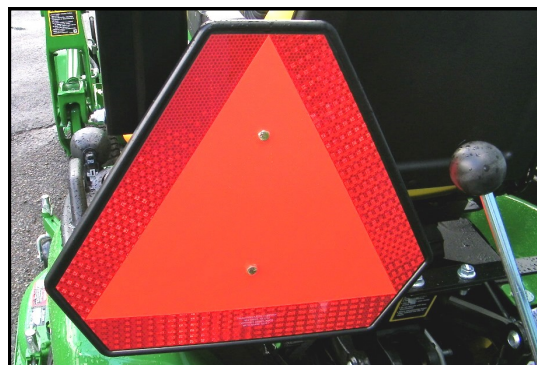

Fig. 1.1a (SMV sign mounted to the ROPS)
(1) Vertical bracket and (1) SMV sign (Slow Moving Vehicle) from the ROPS tubing (Roll-Over Protective Structure) on the left side of the vehicle. Save the SMV sign for reuse and discard the bolts and bracket. See Fig. 1.1a.